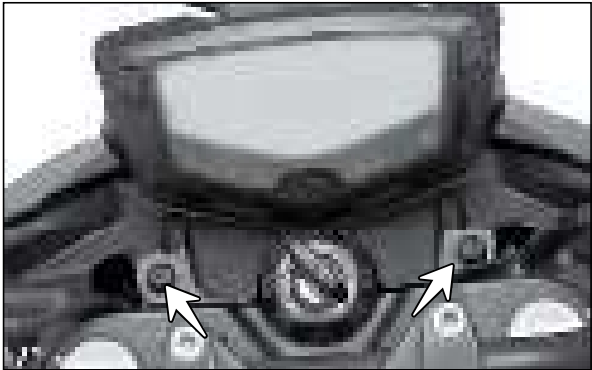

Fig. 5.72
- Remove the CRR pan head screw (M6x25 - 2 Nos.) housing head lamp front top mounting. (Fig. 5.72)